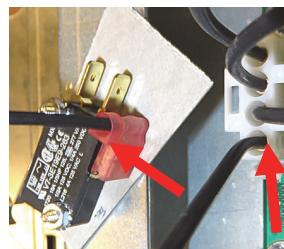

Figure 27
32. Connect pin-4 (bottom) wire to the COM position of the lower right switch (see Figure 27 and wiring diagram on last page).